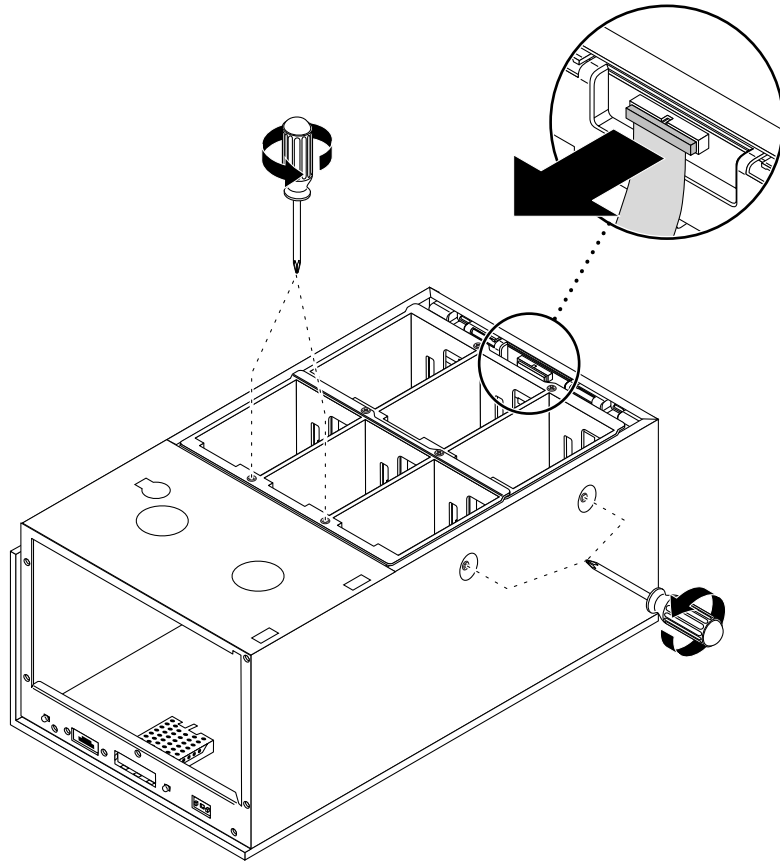

FIGURE 3-19 Drive Cage and Chassis Bottom Screws
- Two screws on the left side of the drive cage (FIGURE 3-19)
- Two screws on the bottom of the chassis (FIGURE 3-19)
8. Remove the LED cable from the LED clip (FIGURE 3-19).